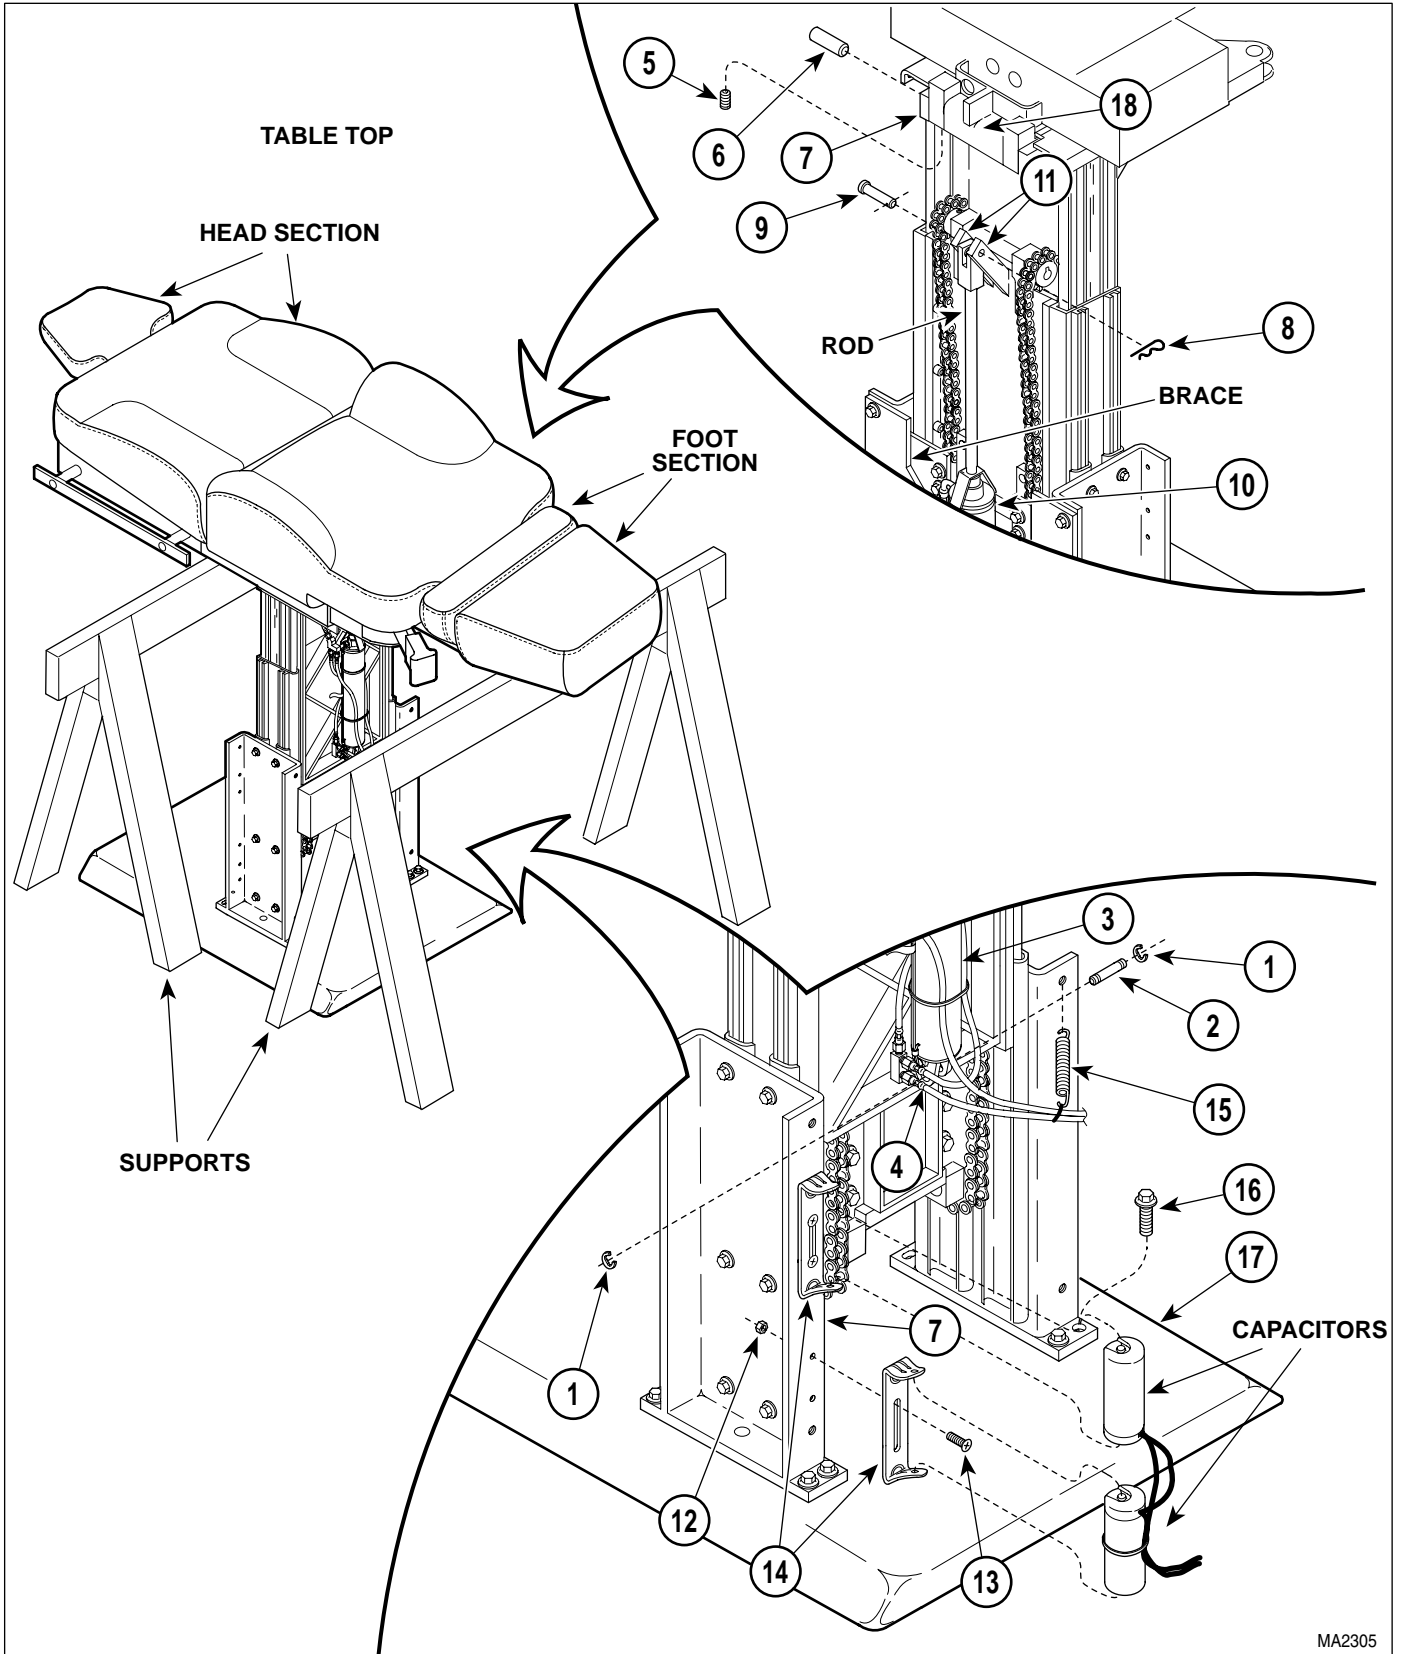

Figure 4-30. Base Slide Assembly Removal / Installation
- (11) Place supports (See Figure 4-30) under foot section and head section of table top, making sure weight of table top is being supported by supports. If necessary, plug table power cord into outlet and lower table top onto supports. Unplug table power cord from outlet.
- (12) Remove two E-rings (1, Figure 4-30), clevis pin (2), and separate tilt cylinder (3) from bracket (4).
- (13) Loosen four setscrews (5). Remove two tilt pivot pins (6) from base slide assembly (7).
- (1) With the help of an assistant, install base slide assembly (7, Figure 4-30) on base weldment (17), making sure base cylinder (10) gets inserted between brace and base slide assembly.
- (2) Secure base slide assembly (7) on base weldment (17) with eight screws (16).
- (3) Connect spring (15) to base slide assembly (7).
- (4) Install two capacitor mounting brackets (14) on base slide assembly (7) and secure with four screws (13) and nuts (12).
- (5) Install capacitors (Refer to para 4.18).